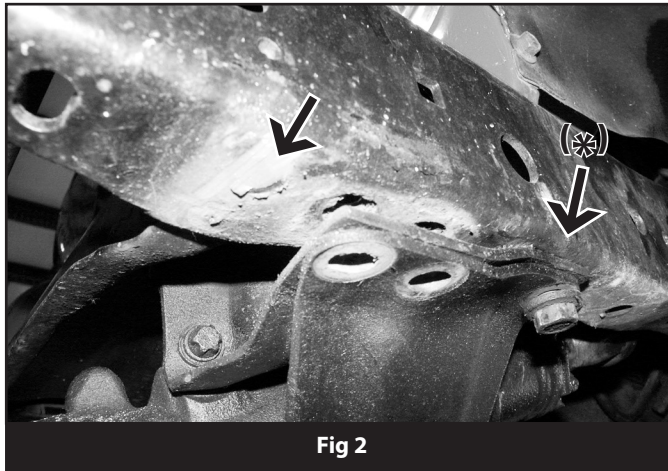

Fig 2
12. The forward-most frame crossmember rivet (original covered by the OE shackle hanger) must be removed. Using a grinder or air chisel, remove the head of the rivet and knock the body of the rivet from the frame with a hammer and punch. (Fig 2)
13. Remove lower rear steering box bracket bolt (\*) (Fig 2)